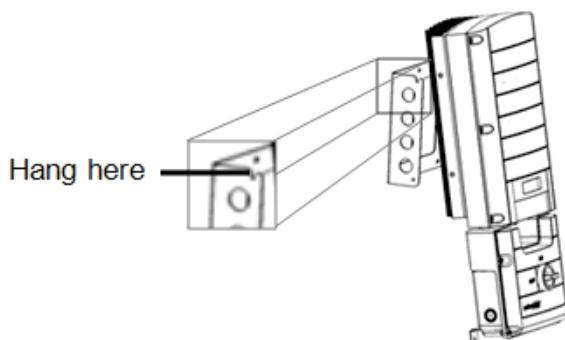
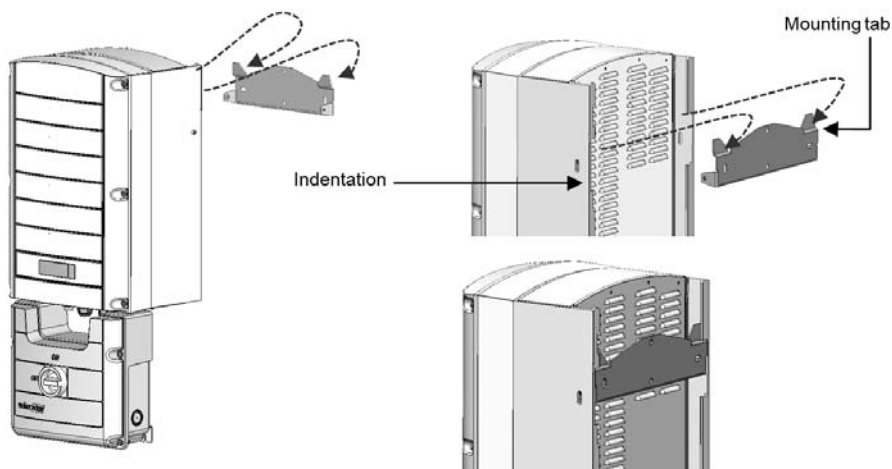

Figure 17: Hanging the inverter on the bracket - Type 1
Figure 18: Hanging the inverter on the bracket - Type 2
3. Hang the inverter on the bracket (see *Figure 17* and *Figure 18*): Lift the inverter from the sides, or hold it at the top and bottom of the inverter to lift the unit into place. Do not lift holding the Safety Switch as it may be damaged.